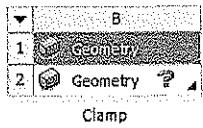

Figure 3-84 The Geometry component system added to the project
- 4. Once the **Geometry** component system is added to the **Project Schematic** window, the name field at the bottom of the component system is highlighted in blue. If it is not highlighted, double-click on the name field and enter **Clamp**, refer to Figure 3-84. The component system is renamed as **Clamp**.